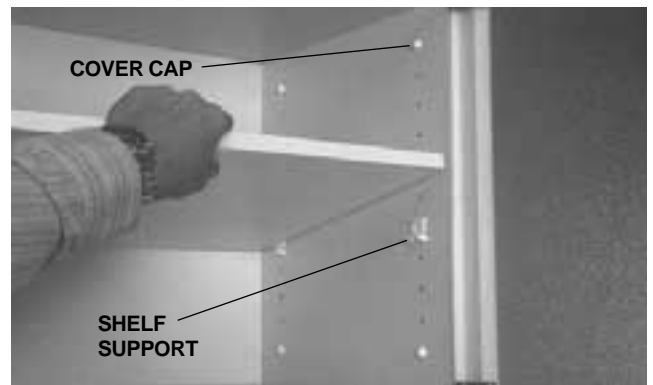

FIGURE 30
2. Install the shelf supports in the appropriate holes (see *Figure 30*).